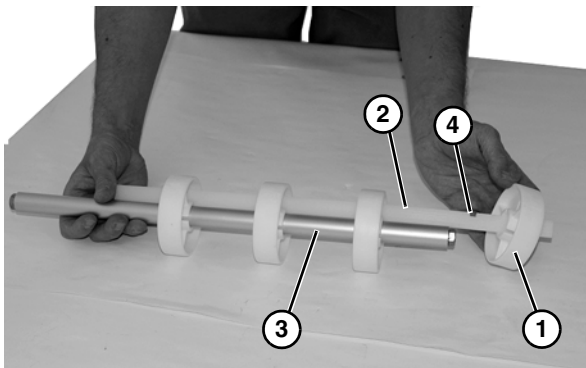

Figure 65
5. Remove rollers (**Figure 65, item 1**) and alignment bar (**Figure 65, item 2**) from shaft (**Figure 65, item 3**). Inspect and replace if worn.
6. Reinstall rollers and alignment bar, with each roller lining up with cutout area (**Figure 65, item 4**) on alignment bar.